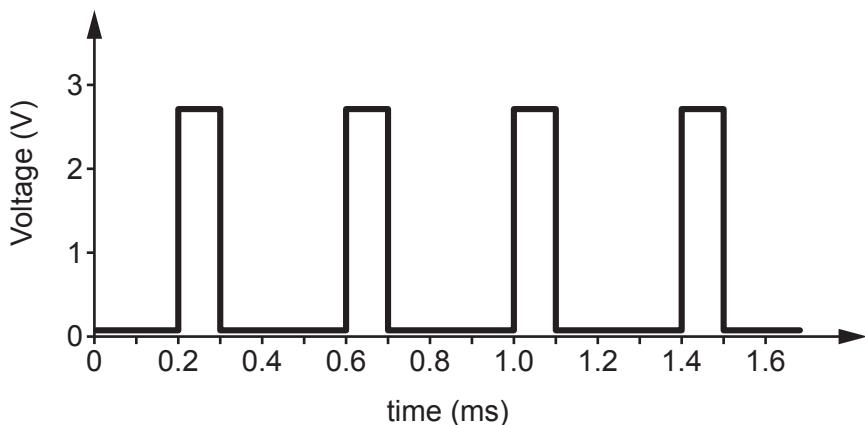

Fig. 4.2
- (a) Fig. 4.2 shows the sound signal waveform produced by the electronic pen.
- (i) Determine the period of the signal in Fig. 4.2. Give your answer in ms. Show your working.
- (ii) Calculate the frequency in kHz of the signal in Fig. 4.2.